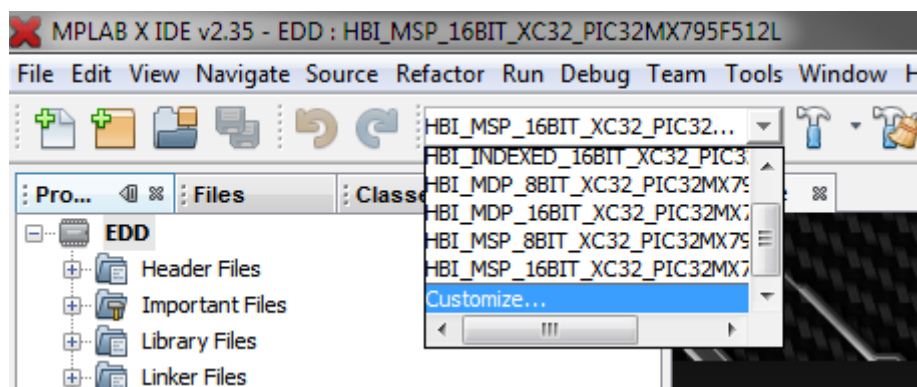

Figure 5: MPLAB X - Customize
2. Select your programming hardware via “Customize” in the Configurations Combo Box, see “Figure 5”.